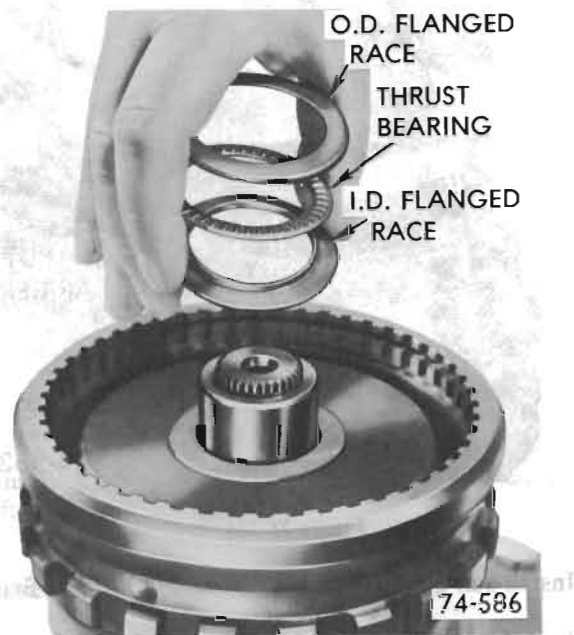

Figure 76-128
6. Install rear internal gear to output shaft thrust races and bearing as follows; and retain with petroleum jelly. See Figure 76-128.